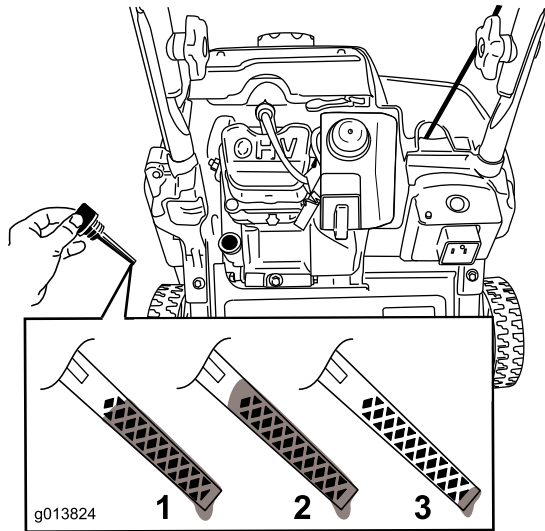

Figure 27
**Note:** To determine the proper oil level on the dipstick, refer to Figure 27.
**Note:** Fill the engine crankcase with oil until the dipstick indicates that the engine oil level is correct as shown in Figure 27. If you overfill the engine with oil, remove the excess oil from the drain plug into an oil drain pan.